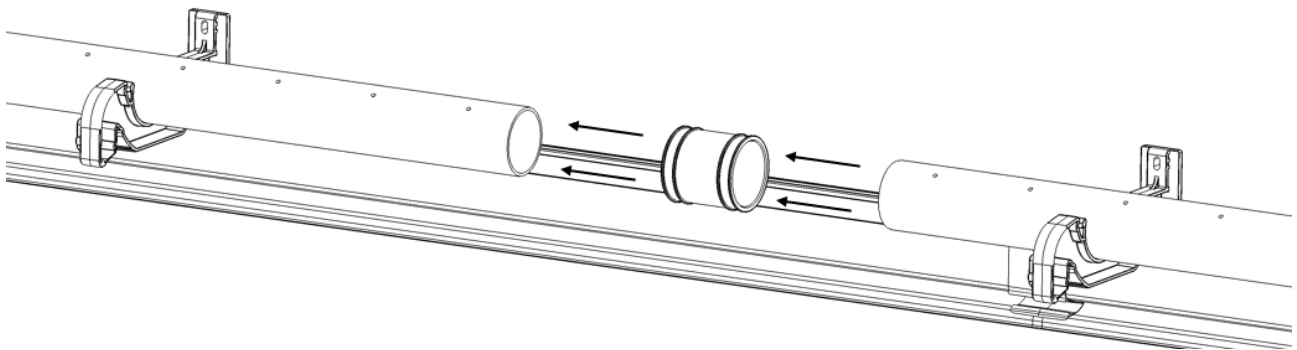

Figure 24
Insert the Pipe Connector [ref. 16]. Then join with the next Water Distribution Pipe as in Figure 24.